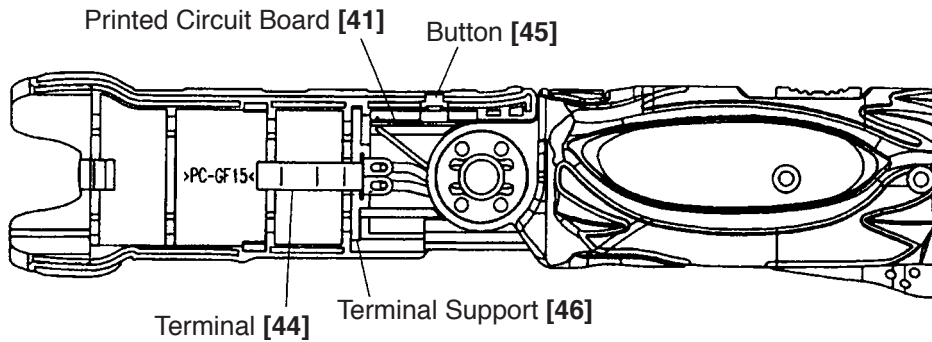

Fig. 15
(8) Reassembly of the handle unit
Mount either of Handle (A).(B) Set [49] to Housing (A).(B) Set [32]. Fit the Printed Circuit Board [41] and the Terminal Support [46] in the grooves of the handle. (See Fig. 15.) Mount the Button [45] to the switch of the Printed Circuit Board [41] and close Handle (A).(B) Set [49]. Tighten the Tapping Screw (W/Flange) D4 x 20 (Black) [37]. Mount the two Clips [48] to the groove of Handle (A).(B) Set [49] using a flat-blade screwdriver.